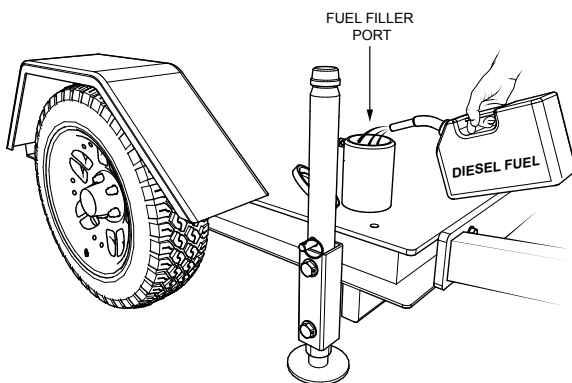

Figure 20. Refueling
3. If the fuel level is low, fill (Figure 20) with recommended type diesel fuel as referenced in Table 3. **DO NOT** fill fuel tank beyond capacity.